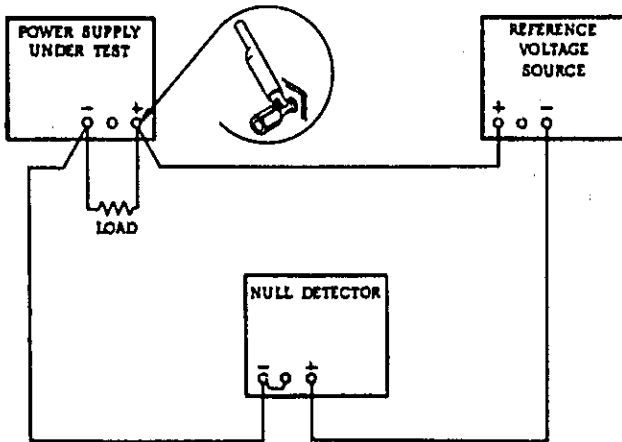

Figure 5-3. Differential Voltmeter Substitute Test Setup
A satisfactory substitute for a differential voltmeter is to arrange a reference voltage source and null detector as shown in Figure 5-3. The reference voltage source is adjusted so that the voltage difference between the supply being measured and the reference voltage will have the required resolution for the measurement being made. The voltage difference will be a function of the null detector that is used. Examples of satisfactory null detectors are: ① 419 A null detector, a DC coupled oscilloscope utilizing differential input, or a 50 mv meter movement with a 100 division scale. For the latter, a 2 mv change in voltage will result in a meter deflection of four divisions.